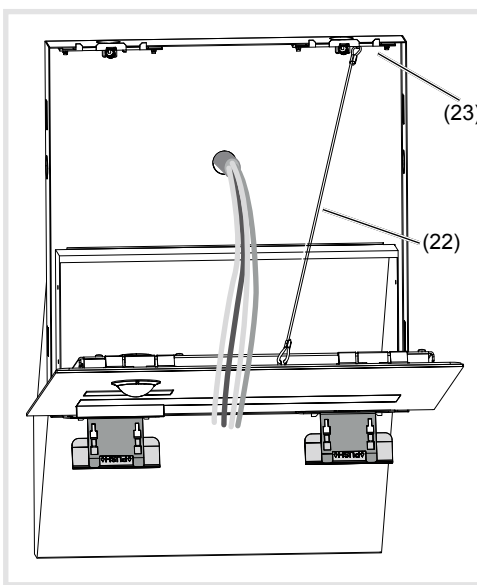

Figure 7: Installation position of video letter box front
- (19) Opening tools
- (20) Lower fastening elements
- Attach the loops of the safety rope (22) between the centre upper suspension of the letter box front and right upper fastening element (23) in the housing. Position the video letter box front to install on the opening tools (Figure 7).